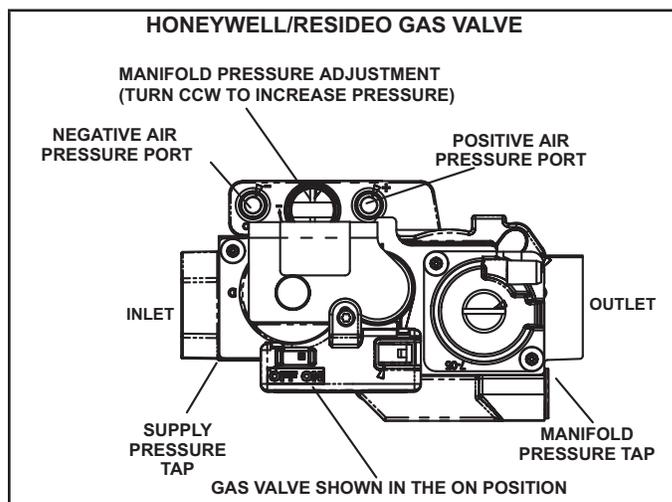

FIGURE 26
Gas Valve Operation (FIGURE 26)
- 6 - Move switch on gas valve to OFF. Do not force. See FIGURE 26.
- 8 - Move switch on gas valve to ON. Do not force. See FIGURE 26.
- 4 - Move switch on gas valve to OF. Do not force. See FIGURE 26.
A port on the inlet side of the gas valve (FIGURE 26) provides access to the supply pressure tap. Loosen the screws and connect a manometer to measure supply pressure. The minimum supply line pressure is 4.5" - 10.5"w.c. for natural and 11.0 - 13.0" wc for LP/Propane. Tighten after measurements have been taken.
- 1 - Remove the threaded plug from the outlet side of the gas valve (FIGURE 26) and install a field-provided barbed fitting. Connect measuring device "+" connection to barbed fitting to measure manifold pressure.